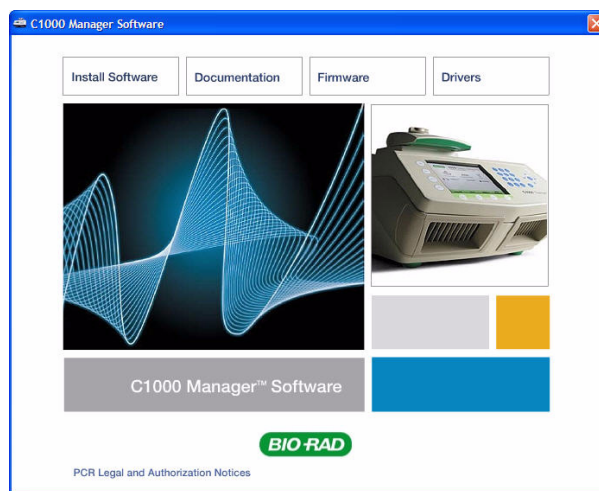

Figure 93. Software installation screen.
3. The software launch page should appear automatically. Click **Install Software** on the software launch page (Figure 93).